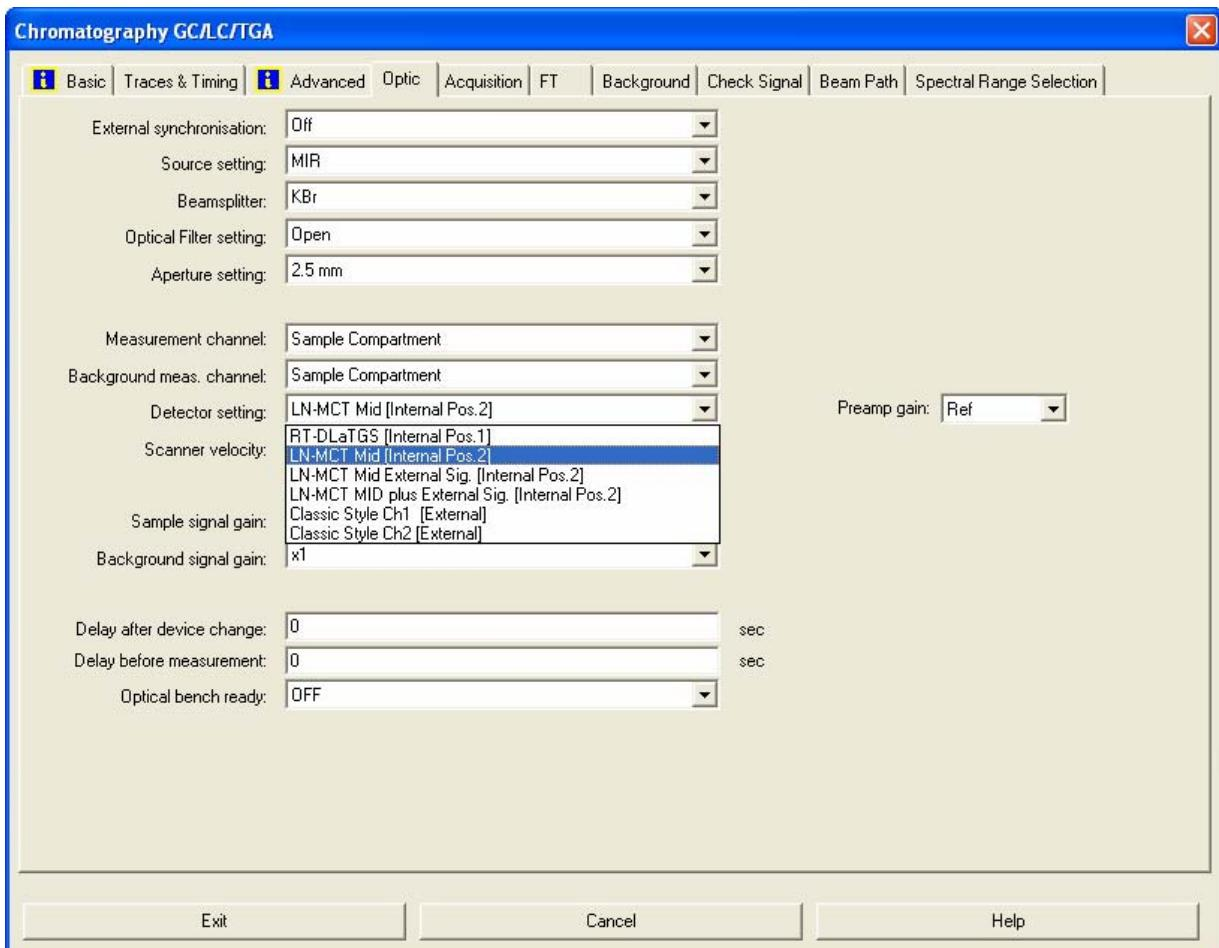

Fig. 8: Chromatography dialog window – Optic page showing the available detector options
- Click on the “Optic” tab. (See fig.8.) This page is identical to the “Optic” page of the standard “Measurement” dialog window. The parameters on this page are in both cases the same. (For detailed information about these parameters refer to the OPUS Reference Manual.) Set the following parameter values:
The list “Detector settings” includes 3 options for the MCT detector with the activated 2nd channel. (See fig. 8.) Each detector channel can be accessed separately, or both of them simultaneously. The syntax of these entries is as follows:
The detector with the activated 2nd channel is “LN-MCT Mid”. (See fig. 8.) This detector is mounted in the internal detector position no.2 of the spectrometer. Therefore, each of the 3 entries ends with “[Internal Pos.2]”.